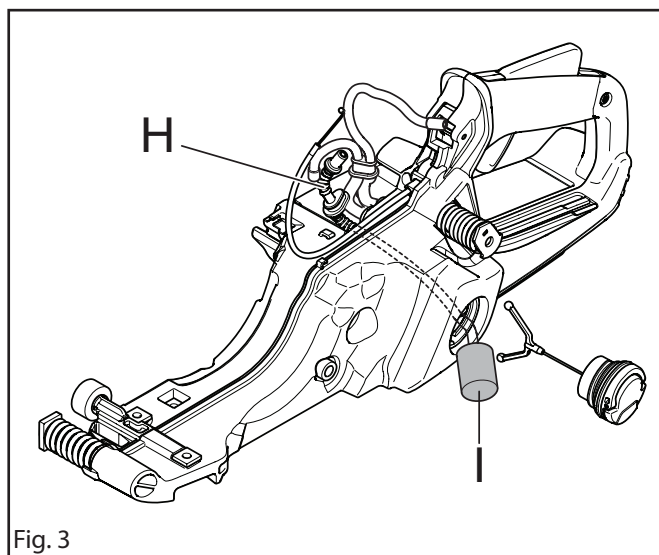

Fig. 3
1. Use a pair of pliers with smooth jaws and pull out the fuel hose from the fuel tank (H). Pull off the fuel filter (I). See figure 3.
2. Fit the new fuel hose and fuel filter in the tank unit. See figure 3.